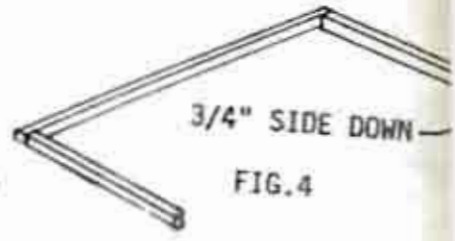

FIG. 4
Step 4 Third floor assembly. The third floor consists of one 1/4" pc. of plywood 15 7/8" W x 29 1/4" L and two pcs. of wood 3/4" x 5/8" x 14 3/4" L and one pc. of wood 3/4" x 5/8" x 29 1/4" L. There is no back pc. on the 3rd floor frame. Glue the two shorter pcs. of wood to the longer pc. WITH THE 3/4" SIDES OF THE WOOD AGAINST THE TABLE. Use two 1 1/2" nails on the two ends. See Fig. 4. Next glue the 3rd floor to the frame WITH THE SMOOTHEST SIDE OF THE PLYWOOD FACING DOWN. Use four 7/8" nails along the front and three along each side.